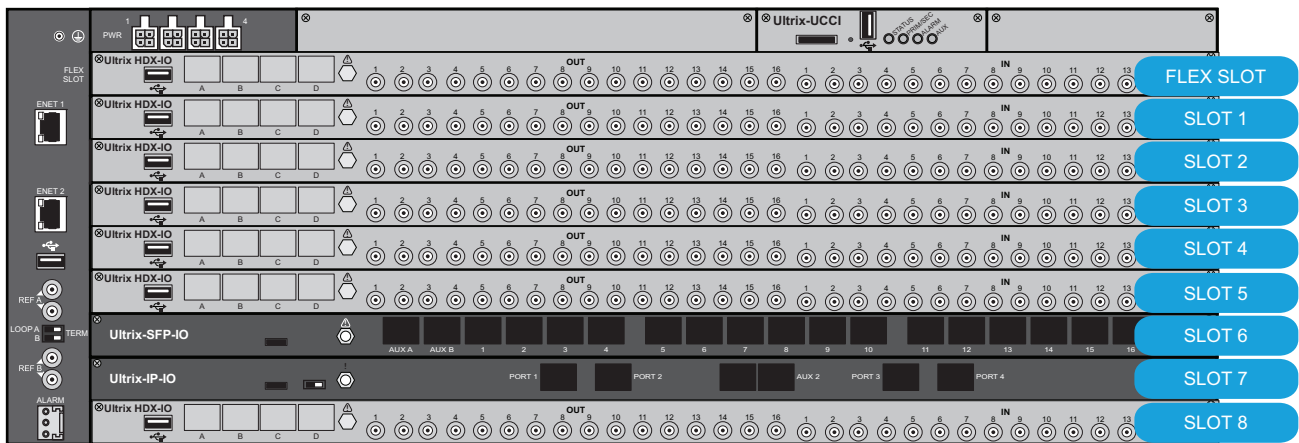

Figure 13 Slot Numbering — ULTRIX-FR5
**Figure 13** outlines the numbering scheme for the ULTRIX-FR5 chassis. Note that the **FLEX** slot is the topmost slot.